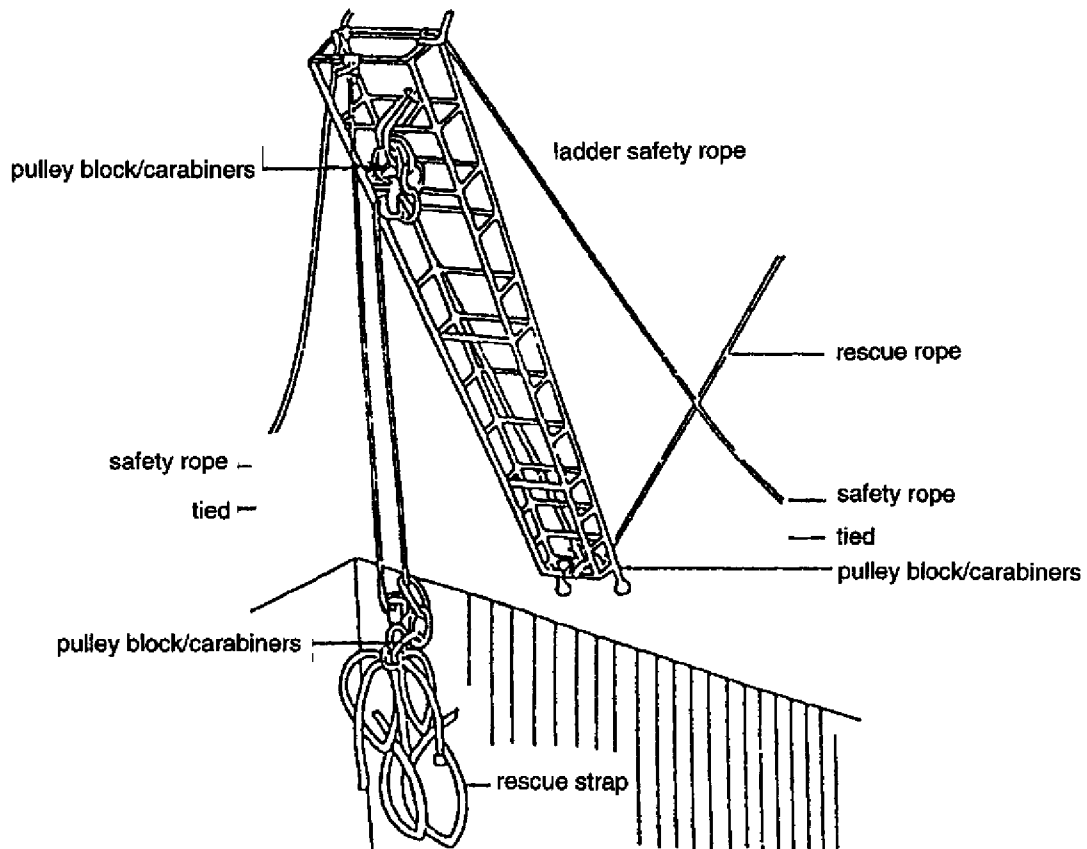

Fig. 7-25
- 2) Attach a pulley block to the sling rope from behind the ladder, and strengthen with carabiners (3 linked together). (Fig. 7-25, 26)